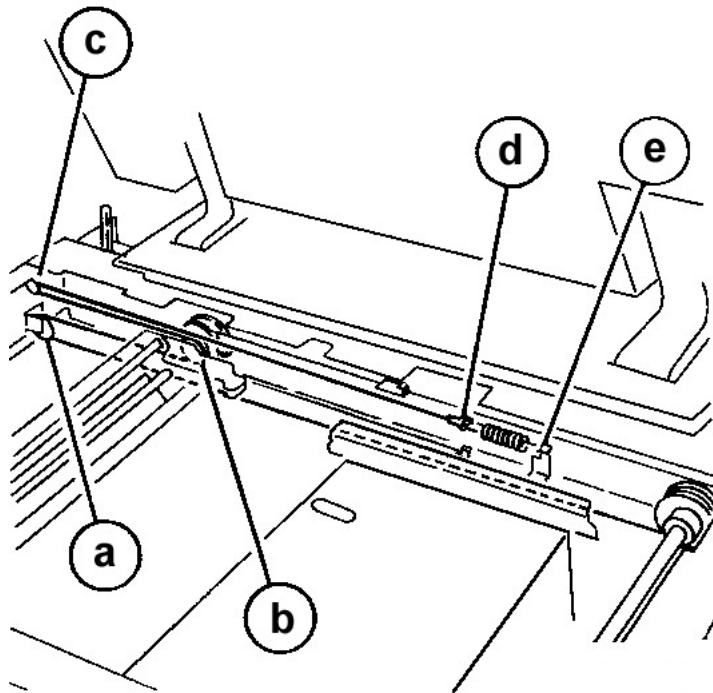

Figure 10 Installing Clip end of Carriage Cable
5. Install the Clip end of the Carriage Cable. Figure 10